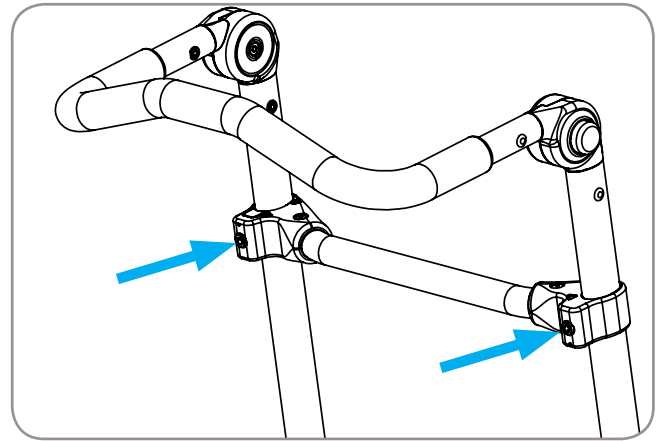

Figure 20
1. Loosen bolts at locations shown in Figure 20.